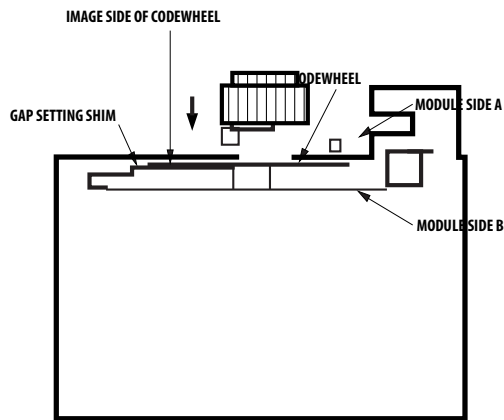

Figure 2. Alignment Tool is Used to Set Height of Codewheel.
- a. Place the correct gap setting tool (per Ordering Information Table) on motor base, flush up against the motor shaft as shown in Figure 2. The shim has two different size steps. Choose the one that most closely matches the width of the codewheel boss. The shim should not contact the codewheel boss.